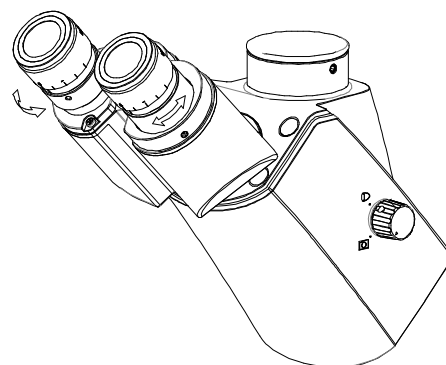

Fig.10 Adjustment of Diopter
3.3.2 Adjustment of Diopter (Fig.10)